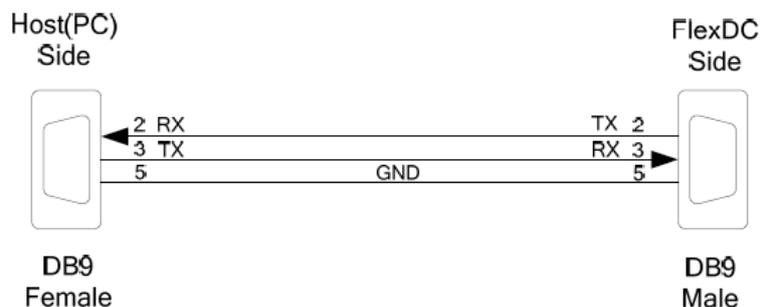

Figure 26: The RS232 Cable
- ◆ The RS232/CAN includes D-SUB 9pin female (see Table 4) support RS232 and CAN bus (last) communication channels (see Figure 26).
The Joystick connector is a D-Type 25pin, female (refer to Figure 26). It is recommended to use a Nanomotion joystick.